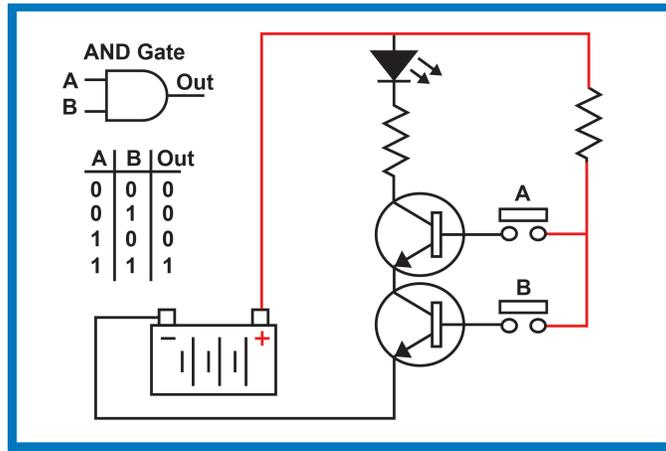

Figure 15
Now let's look at an AND Gate, as illustrated in Figure 15. In this diagram there is a power source in the lower left corner. This will supply current to the circuit so it can operate. The circuit supply's current to the LED only if both transistor A and transistor B are turned on. The LED default state is off (0). If switch A is closed (1) then voltage is supplied to the base of transistor A, turning it on (1). However this will only close (1) transistor A, transistor B is off (0), so there is not a complete circuit to ground. If switch B is closed (1) then voltage is supplied to the base of transistor B, turning it on (1). However this will only close (1) transistor B, transistor A is off (0), so there is not a complete circuit to ground. If switch A is closed (1), and switch B is closed (1) at the same time, then the ground circuit is complete and the LED is turned on (1). This shows the function of the AND gate where both gates must be closed A(1) B(1) to get an output that is on (1).